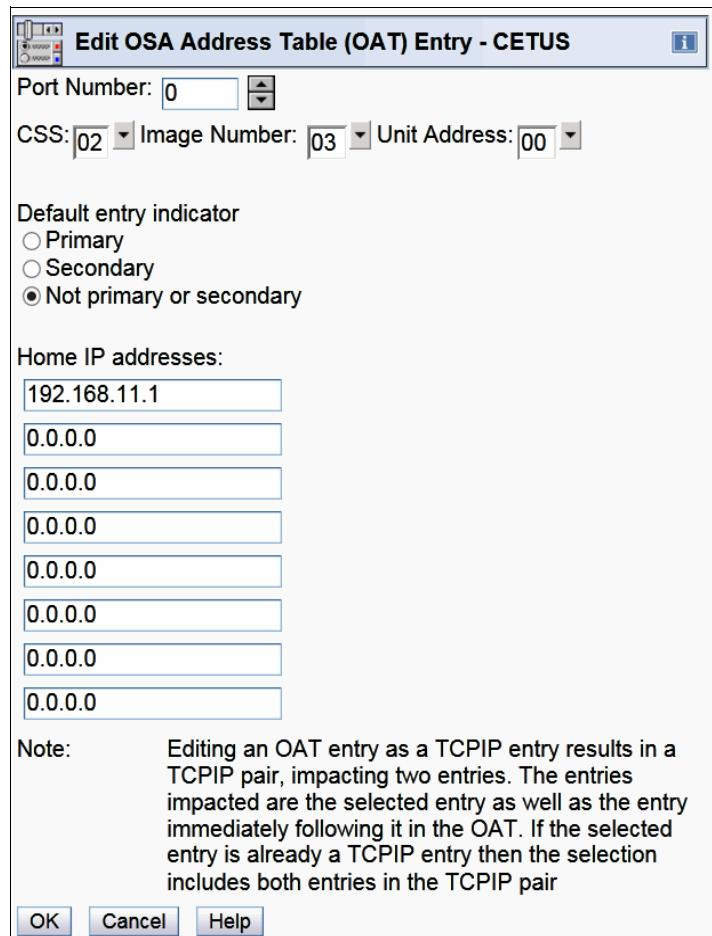

Figure 6-12 OSA/SF on the HMC: Edit TCP/IP entry window
8. Select **Edit as TCP/IP Entry**, and the Edit OSA Address Table (OAT) Entry shown in Figure 6-12 opens. Enter and select the appropriate TCP/IP parameters here, and then click **OK**.